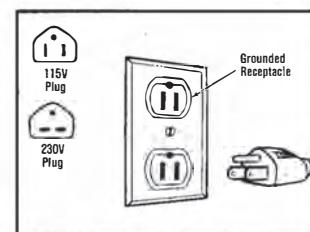

Figure 2. Machine Grounding Instructions.
3. **Ground Machine (Fig. 2).** This machine should be grounded while in use to protect the operator from electric shock. The machine is equipped with an approved three-conductor cord and three-prong grounding type plug to fit the proper grounding type receptacle. The green (or green and yellow) conductor in the cord is the grounding wire. Never connect the green (or green and yellow) wire to a live terminal. If your unit is for use on less than 150 volts, it has a 115V plug. If it is for use on 150 to 250 volts, it has a 230V plug.